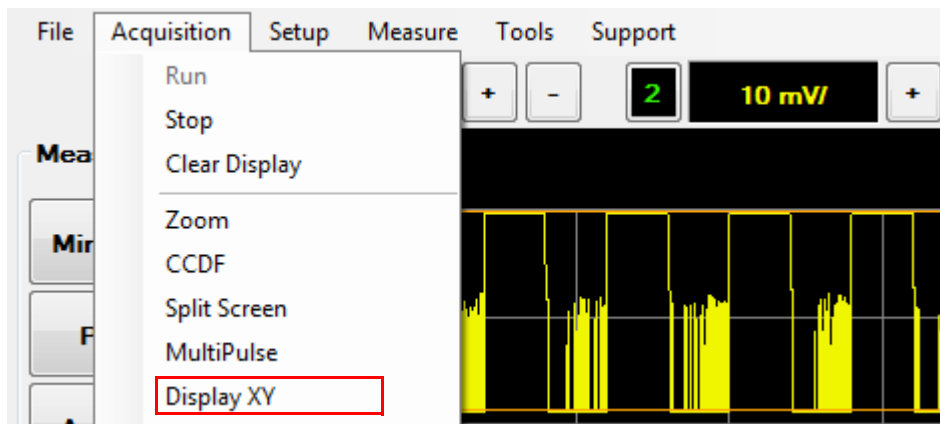

Figure 2-99 Display XY selection in the Acquisition menu
- 1 Select **Acquisition > Display XY** on the toolbar as shown in Figure 2-99.